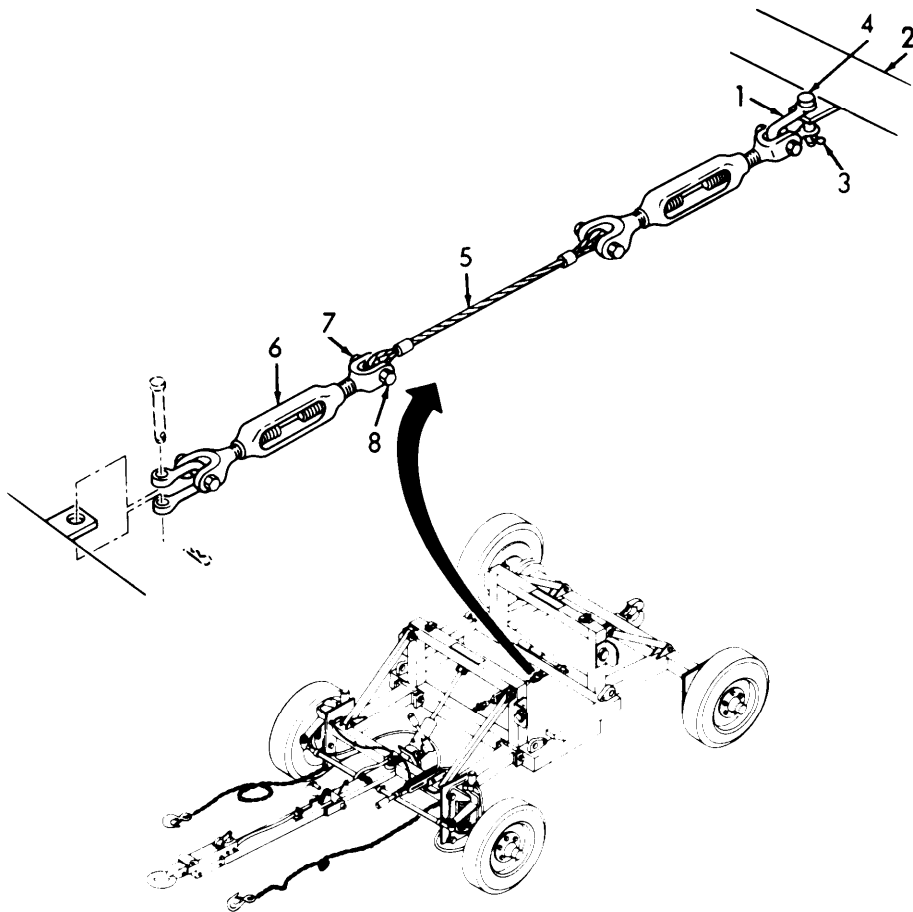

Figure 3-11. Cable Assembly, Removal.
- (1) Remove chain shackle assembly (1, Figure 3-11) from transporter (2).